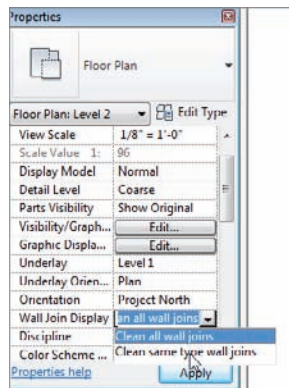

FIGURE 2.56 Choosing a Wall Join Display option in the view's properties
3. In the Properties dialog, you see a category for Wall Join Display. It's set to Clean All Wall Joins; it's also unavailable for editing. If your view's detail level is set to Fine, the default is to clean all joins. If it's set to Coarse, as shown in Figure 2.56, you have a choice between joining the same wall types and cleaning all joins.